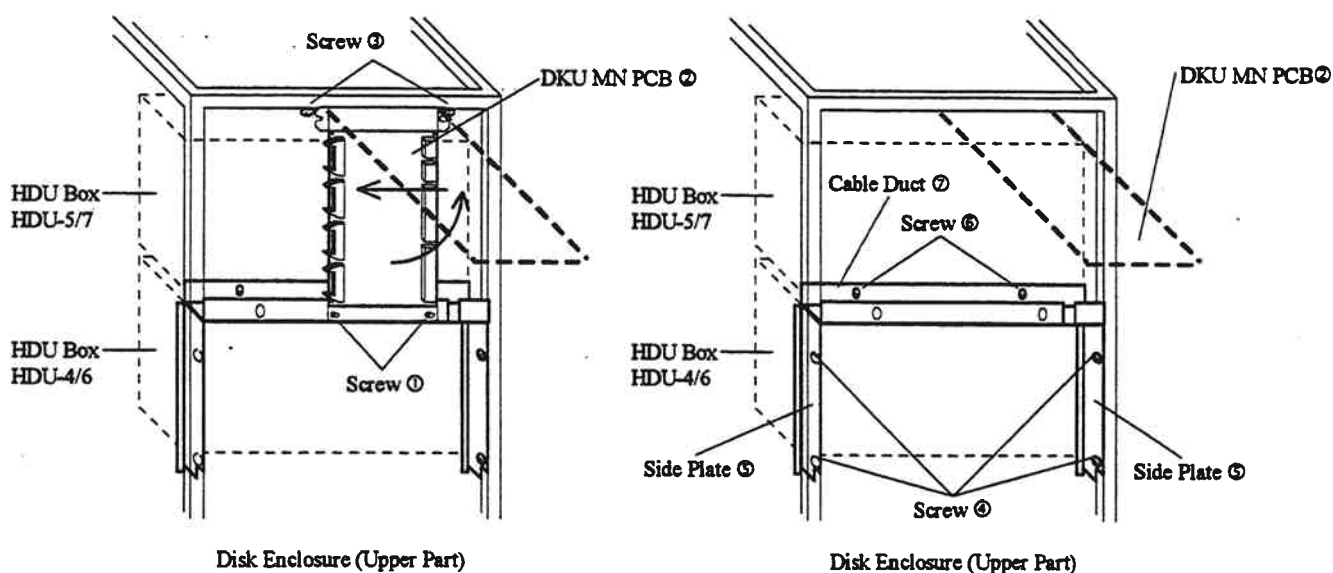

Fig. 3.4.6.3-11 Removal of the Side Plate
a. Disconnection of the DKUMN cables ① referring to Table 3.4.6.3-2 and Fig. 3.4.6.3-12.